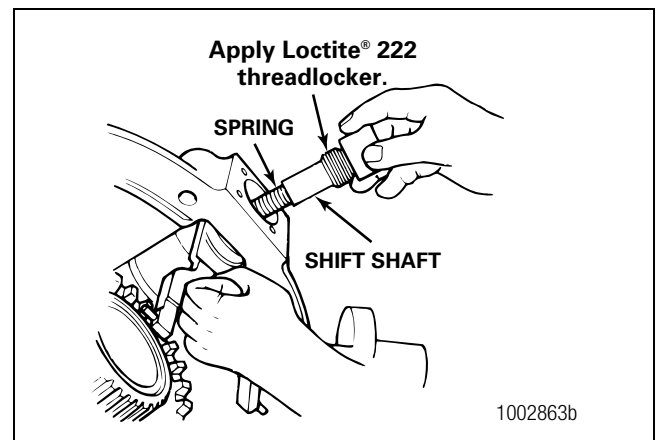

Figure 6.28
- Hold the shift fork in position. Install the shift shaft spring into the shift shaft opening in the carrier, through the shift fork bore and into the bore for the shift shaft spring. Figure 6.28.